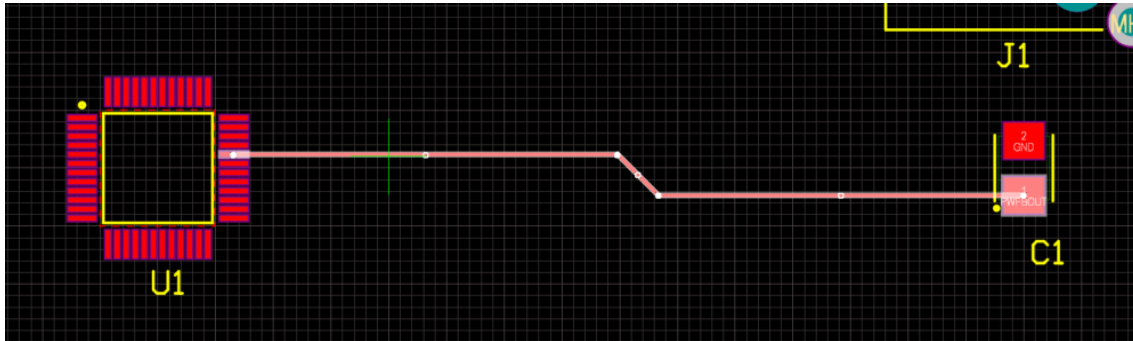

Figure 7. Selecting the Connected Copper for net `PWFBOU`
21. Select the `PWFBOU` net that connects the component `U1` and `C1` as shown in Figure 7.